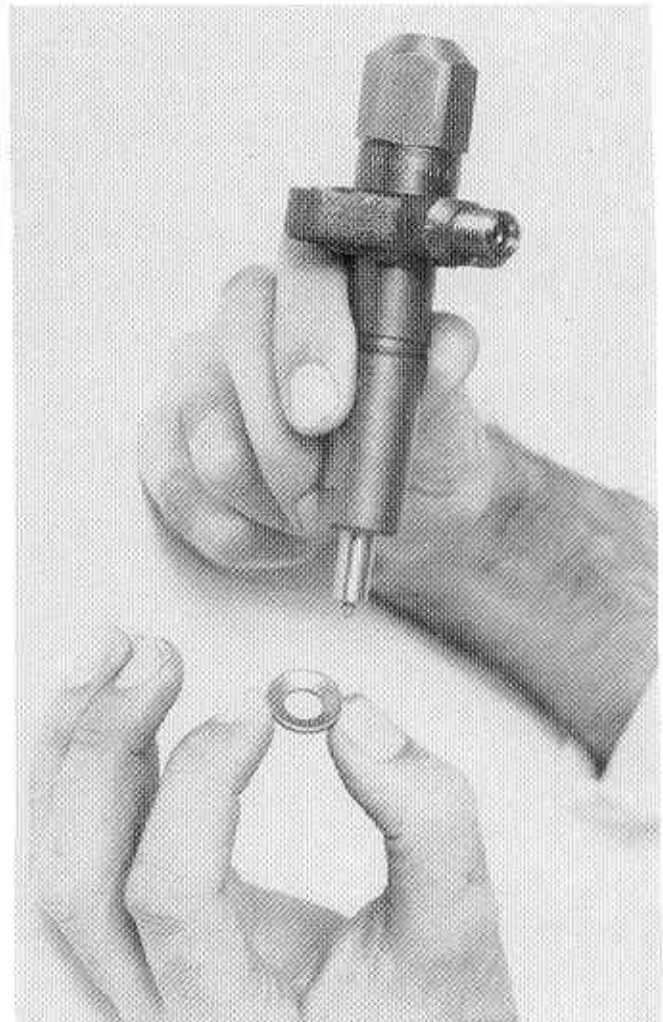

Figure 3.1 Fitting the Sealing Washer
Replacement (Figure 3.1)
- (1) Fit a new sealing washer on the injector with the concave side facing upwards as shown in Figure 3.1.